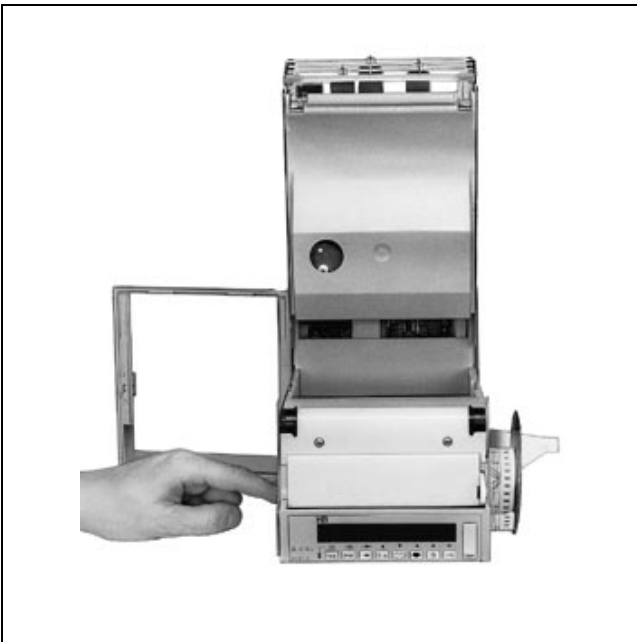

Fig. 16 Removing the take-up reel
4. Remove the take-up reel with recording paper (see fig. 16).